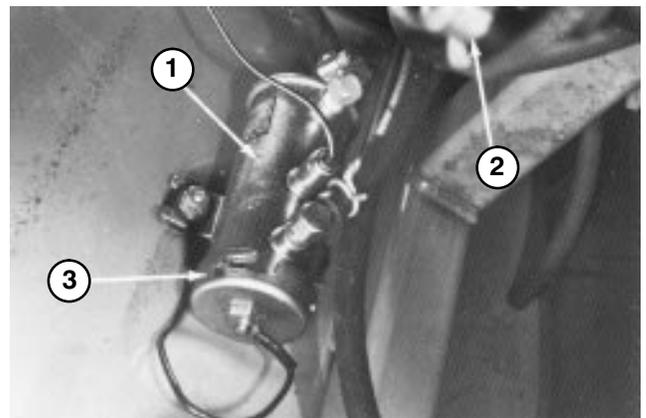
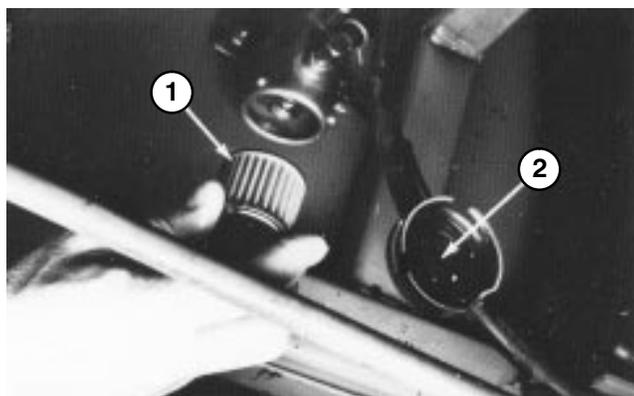

Figure 45
Figure 46
1. Fuel pump is located on inner frame bulkhead to left of drive coupling assembly (Fig. 45).
3. Place a drain pan under fuel pump and remove cover from fuel pump with 17 mm wrench (Fig. 45). Take care not to damage wire while removing cover.
4. Pull filter out of pump body (Fig. 46).
6. Clean magnet of any residue (Fig. 46), insert filter into body, and install cover (Fig. 45).